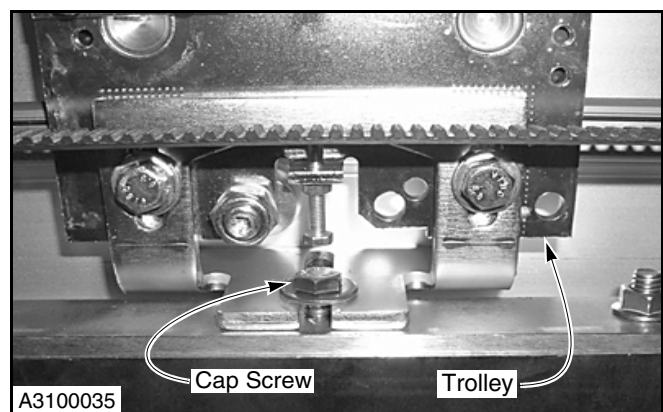

Figure 10
- a. Loosen the cap screw on both trolleys. (See Figure 10.)